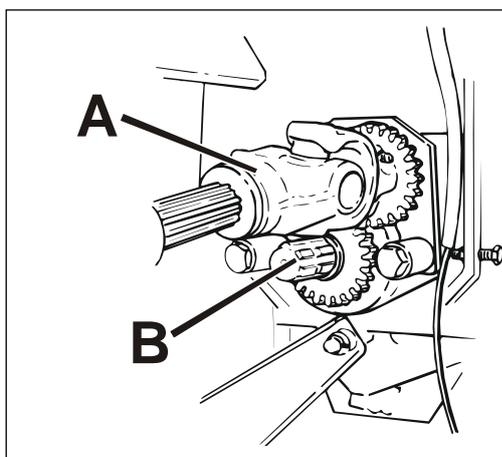
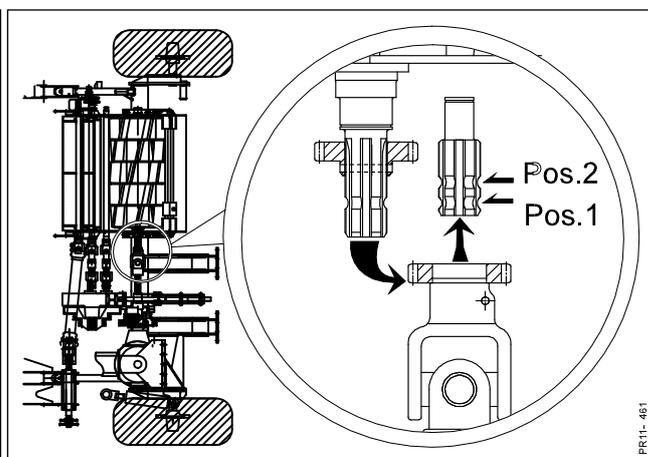

Fig. 6-7
Fig. 6-8
- Fig. 6-7** 2) Move the PTO shaft **A** for the rotor to the alternative pin in **pos. 1**, where the gear wheels are not in mesh. Thereby the rotor is not driven.
- Fig. 6-8**
**WARNING:** It is important that the PTO shaft is **NOT** moved to **pos. 2**, where the rotor rotates in the opposite direction. This position is only used for grinding.
- Fig. 6-7** 4) After reversing disconnect the power take-off again, and when the rotor has come to a complete stop, move the PTO shaft **A** for the rotor back to the pin **B** for driving the rotor.